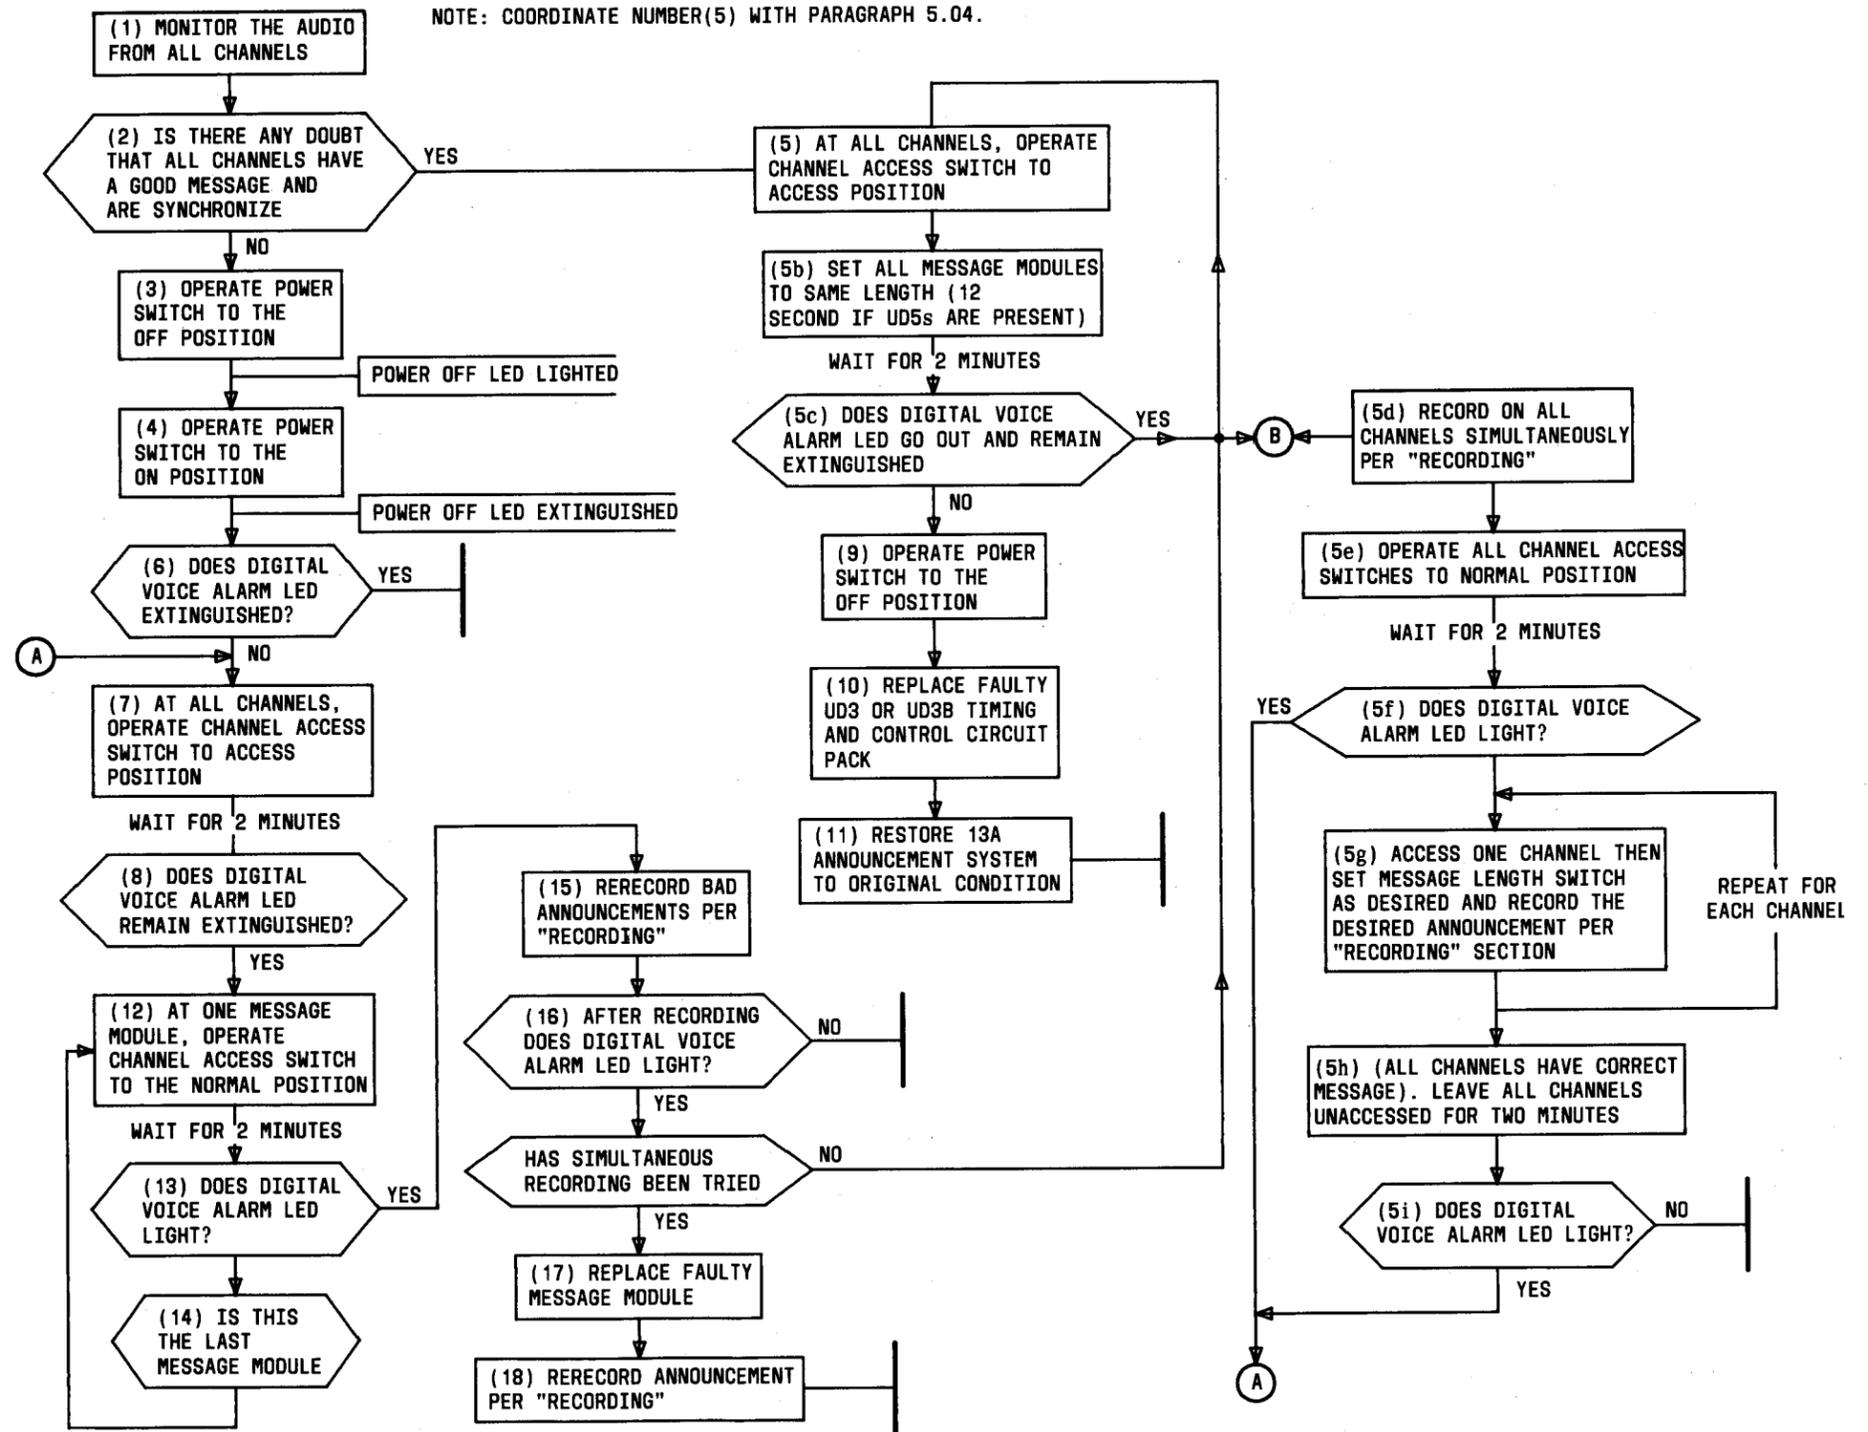

Fig. 6—Procedure 4 (Digital Voice Alarm LED)
5.04 To synchronize all channels together, record a dummy message on all channels simultaneously, then go back to each channel individually and record the desired message. This procedure is detailed starting with Step 5 in Fig. 6.